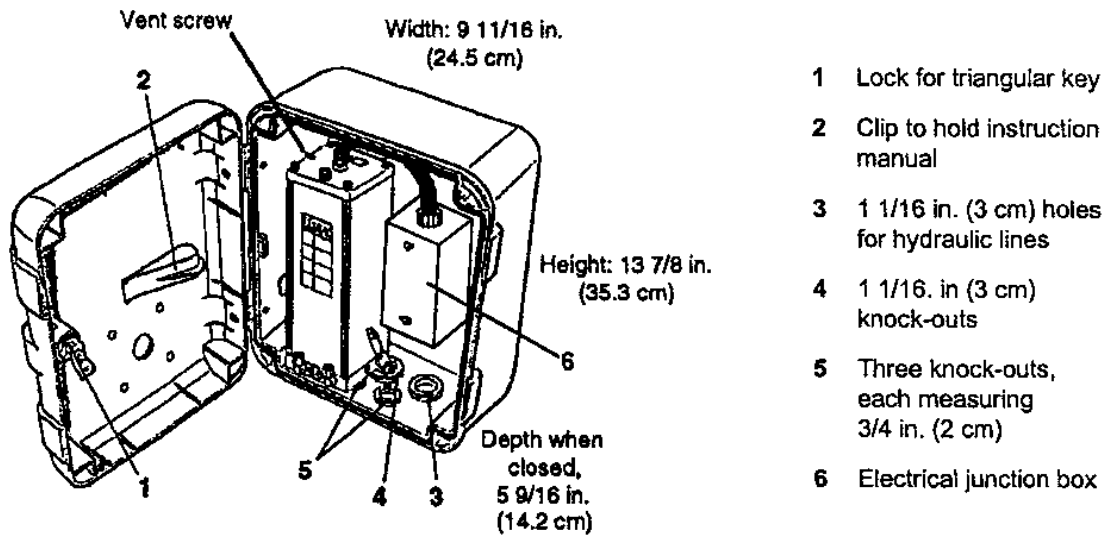

Figure 6. Parts of the power unit in the vinyl box
Figure 6 shows important dimensions and parts of the vinyl power unit box.
2. The power unit itself must be installed so that the vent screw is on the top of the unit as shown in Figure 6.
At this time, you also need to remove the vent screw located on the power unit. The vent screw is in the middle of the top, left side of the power unit as shown in Figure 6.